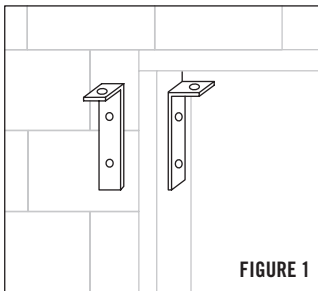

FIGURE 1
- 1) Before installing, decide on gate placement. L-brackets that form top hinge allow gate placement in the recess of door frame. Installation can also be made outside or inside of wall next to door or opening frame. (See Figure 1)